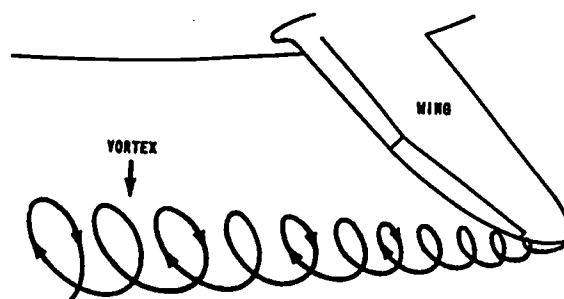

Figure 20. Induced Drag.
*Induced drag* is an unavoidable result of lift. As the aircraft speeds forward through the air, the air which creates the lifting force creates a retarding force. Here's how it works: air from the high pressure area below the wings of the aircraft tends to move into the low pressure area above the wings. Because the aircraft is moving forward, the effect of this motion is trailing vortices. A vortex is simply a whirlpool, and the movement of the air imparts a whirling motion to the air at both the trailing edges and at the tips of the wings of the aircraft. At the center of these vortices are low pressure areas, and these low pressure areas behind the wing will tend to retard the forward movement of the aircraft. See Figure 20.